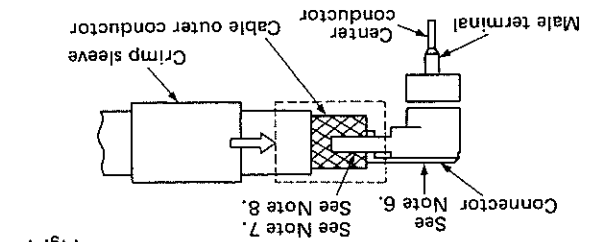

Fig. 5
Note 5: After insertion, there must be a clearance of about 2 mm between the cable center conductor and the end face of the male terminal. Bend the connector lid, as shown in Figure 5.
(2) Slide the crimp sleeve further in up to the base of the support bar. (Fig. 5 dotted line section)
(3) The clearance between the outer insulation and the end face of the LP shell must be 5.2 mm or less.
(4) At this time, the support bar must be inside the crimp sleeve.
(5) Visually check the cable center conductor to ensure that its end is uniform with respect to the end of the male terminal. If the conductor does not have a uniform end, pull out hidden strands with pillars, etc.